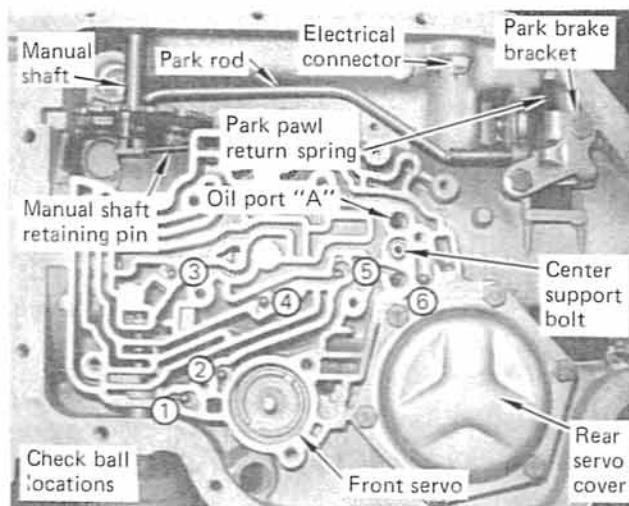
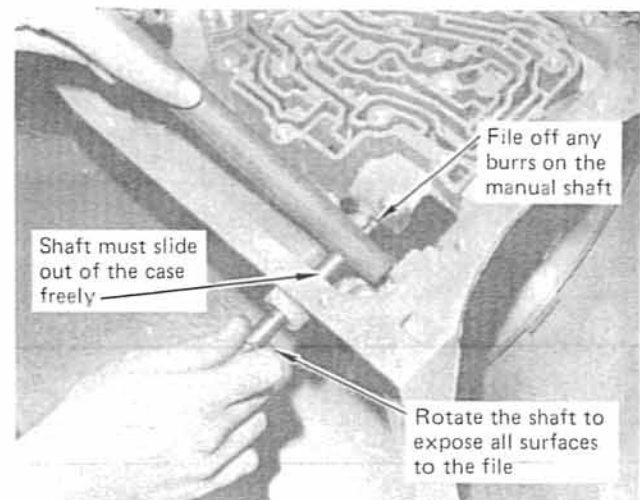

FIGURE 7
FIGURE 15
**STEP 5.** Remove two bolts which hold the detent solenoid in place. Set the detent solenoid with the valve body. Discard the solenoid gasket. NOTE: Square can solenoids do not have a gasket. Remove and discard both valve body gaskets and separator plate. Remove six 1/4" steel balls from the case and set them with the valve body. (See Fig. 7)
**STEP 6.** Remove front servo assembly by grasping front servo piston pin and pulling entire assembly from case. (See Fig. 7) You will remove: Pin, piston, washer or C-clip, spring retainer and spring. (See Fig. 52 & 53) Put these parts in the oil pan so they won't be lost. Remove and discard piston seal ring if it is metal. Do not remove teflon seal ring.
**STEP 7.** Remove six rear servo cover bolts. (See Fig. 7) Remove servo cover. Remove servo by pulling straight out. If the servo sticks tap on the side with a screwdriver handle
**STEP 11.** Remove center support bolt. (See Fig. 7) Use a 3/8" 12-point socket. Put bolt in oil pan. Also remove electrical connector. Remove and discard O-ring. Put connector in oil pan.
**STEP 18.** Remove park brake bracket bolts and bracket. (See Fig. 7) Remove the park pawl return spring and bracket. Remove park rod. Remove manual shaft retaining pin (nail). Loosen inside detent lever nut and slide manual shaft out of case. Note: Be sure to file off any burrs that may be on the manual shaft before trying to remove it. If you scratch the bore it will leak. (See Fig. 15) The shaft should slide out freely. If the manual shaft has O-rings on it, discard them. Put linkage parts in the oil pan.